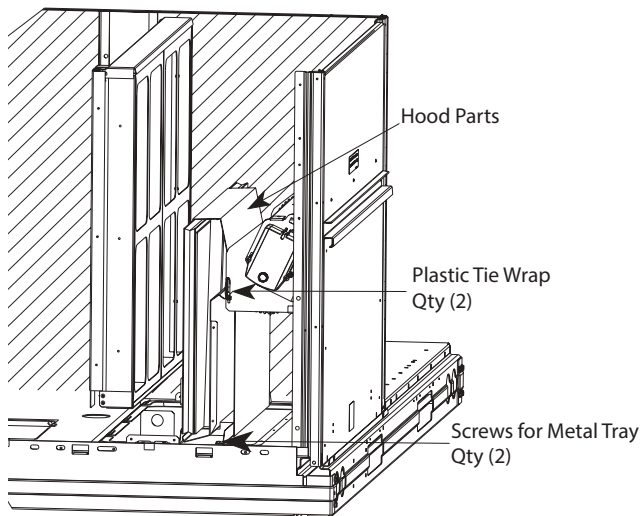

Fig. 14 — Economizer and Two-Position Damper Hood Parts Location
3. Locate the (2) screws holding the metal tray to the basepan and remove. Locate and cut the (2) plastic tie-wraps securing the assembly to the damper. (See Fig. 14.) Be careful to not damage any wiring or cut tie-wraps securing any wiring.